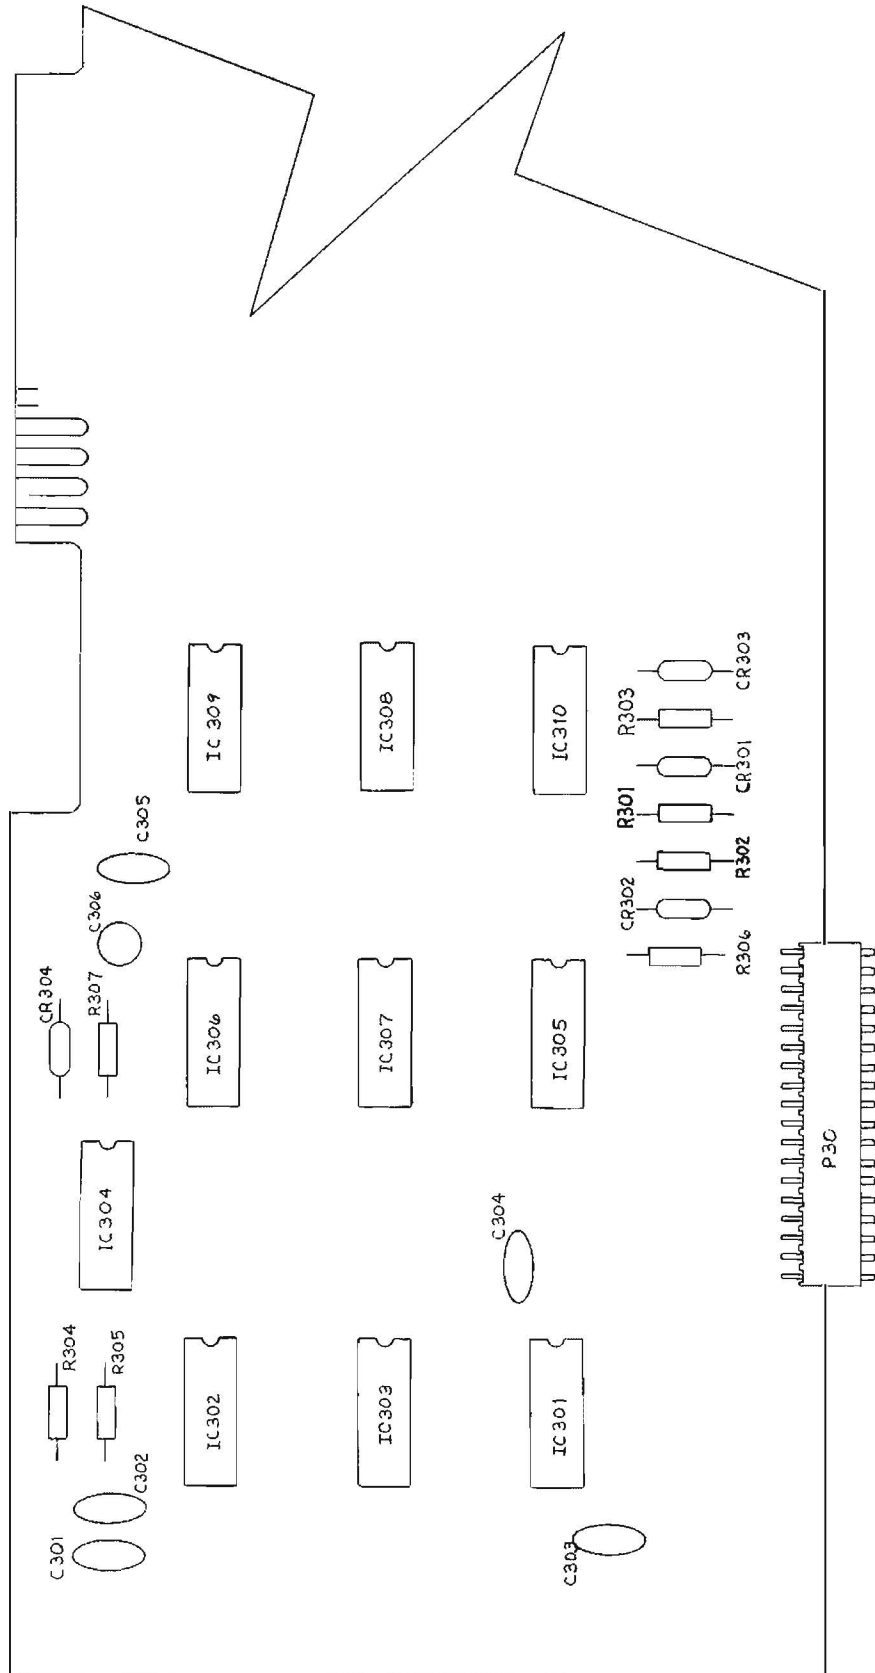

FIG. 6-5 COMPONENT LOCATION BCD OPTION BOARD
6.13 Digital BCD Output Option (Refer to Fig. 6-5)